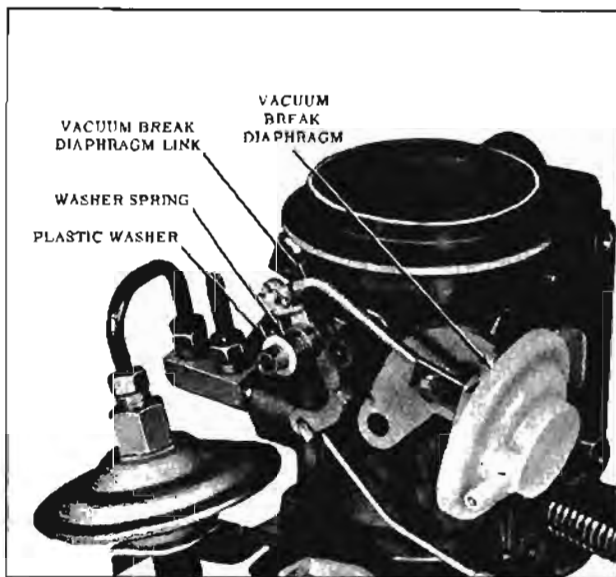

Fig. 9-121 Vacuum Break Diaphragm
5. Remove the two choke housing attaching screws, then remove the choke housing and spring-loaded plastic washer from the air horn assembly. Remove washer spring. Now the hairpin clip on vacuum break diaphragm link can be removed. (Fig. 9-121)
2. Fasten vacuum break diaphragm bracket to air horn and connect vacuum tube to diaphragm and to fitting in air horn. Connect vacuum break diaphragm link to choke lever fastening with hairpin clip on choke lever end of link. (Fig. 9-121)
3. Assemble plastic washer and spring to choke housing. Install the choke housing on the air horn assembly with two attaching screws. Tighten attaching screws securely. (Fig. 9-121)